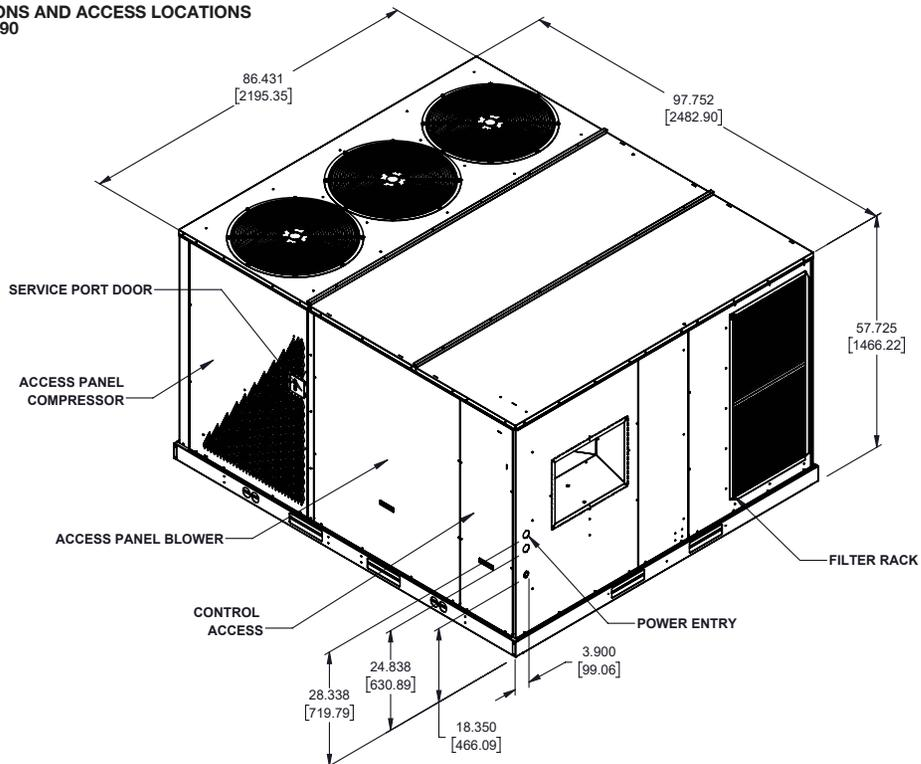

FIGURE 2
3. The location of the unit on the roof should be such as to provide proper access for inspection and servicing (Figure 2).